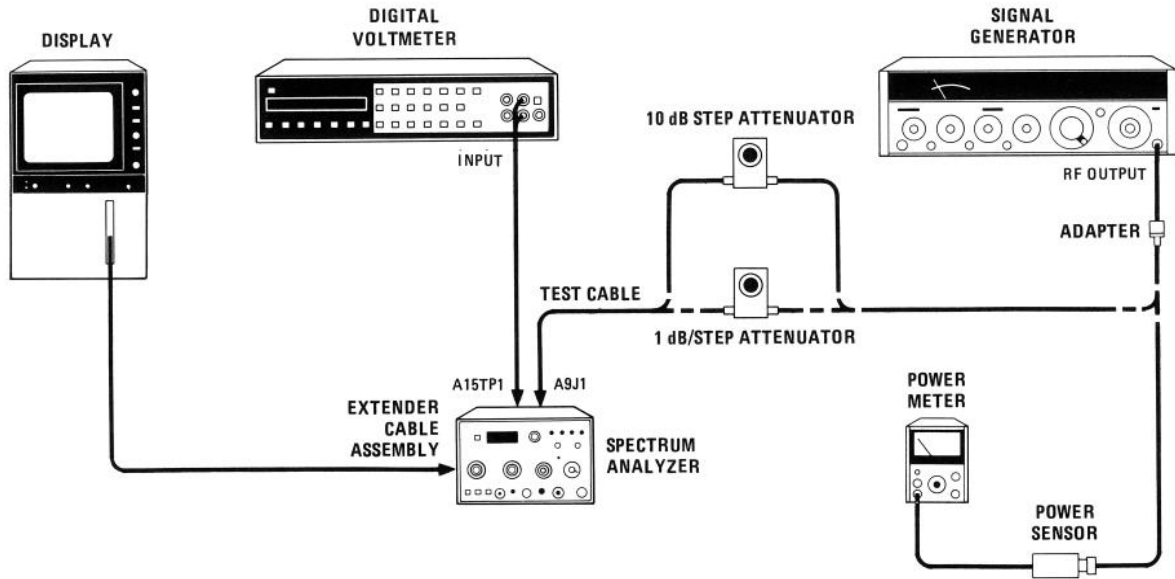

FIGURE 5-11. STEP AMPLIFIER GAIN ADJUSTMENT TEST SETUP
2. Connect equipment as shown in Figure 5-11. Connect signal generator tuned to 301.4 MHz with approximately -13 dBm output to one side of a 1 dB/step attenuator. Connect attenuator output to A9J1 through test cable. Tune signal generator frequency for peak amplitude on display.